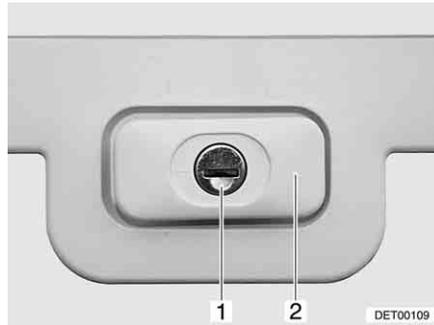

Fig. 28 Flap lock, rectangular, closed
- Insert key into locking cylinder (Fig. 28,1) and turn a quarter turn. The lock handle (Fig. 28,2) snaps out.